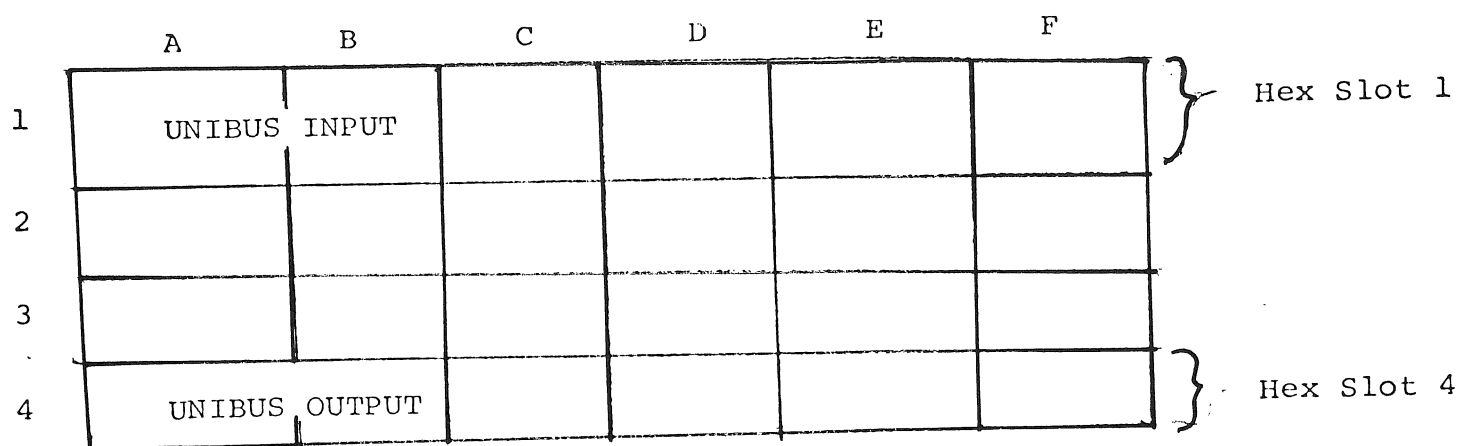

FIGURE 2-1
2.1.1.1 Single System Unit (see Figure 2-1) - The smallest System Unit is the Single System Unit. It consists of a four (1-4) by six (A-F) connector array, which is four hex slots used for module mounting, (see PDP-11/04 user's Guide - Configuration section). Many special system units are dedicated to a special set of modules, such as a disk interface. Slot 1 connectors A and B, and slot 4 connectors A and B are always used for Unibus Input and Unibus output connections, respectively.